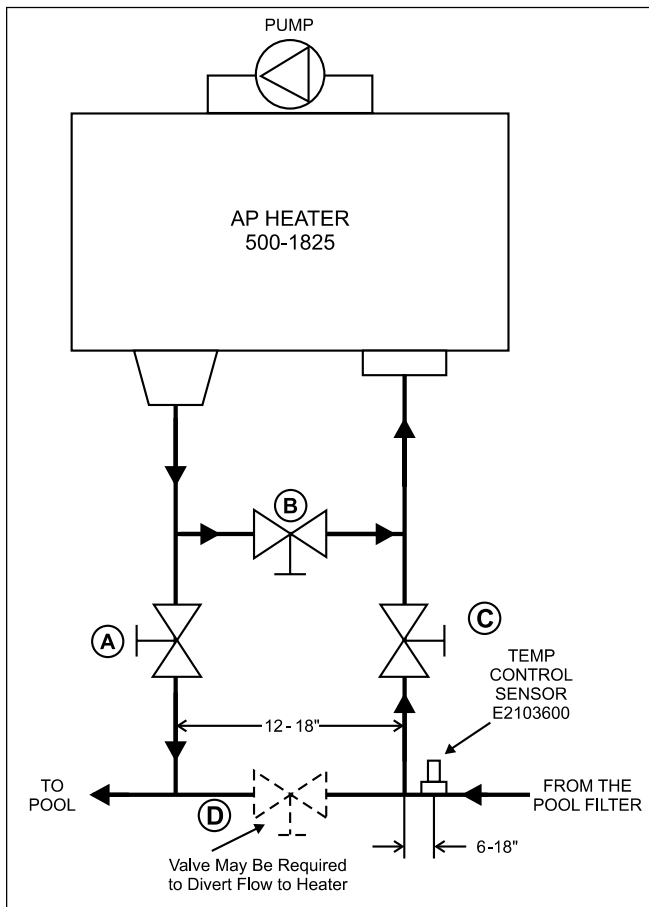

Figure 11. Heater Piping Arrangement.
All models must be installed in the parallel arrangement shown. The “secondary” or boiler piping must tee into the filter piping with the inlet and outlet connection spaced a maximum of 18” (450mm) apart (see Figure 11).
1. The immersion well body is provided with a 1/2" NPT. Mount the immersion well on the underside of the filter circulation piping, just upstream of the boiler inlet tee as close to the boiler as possible (see Figure 11). **DO NOT INSTALL in secondary piping or downstream of the boiler inlet tee.**